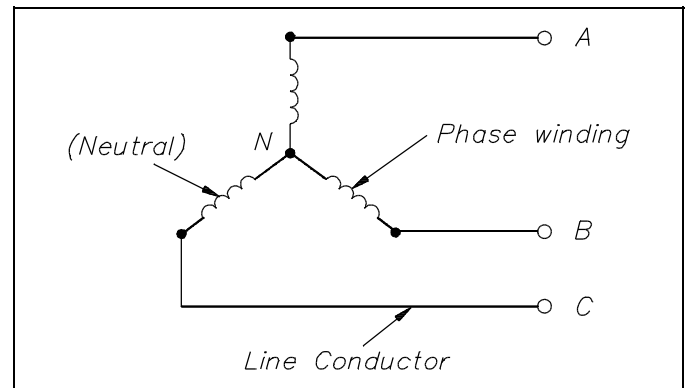

Figure 10 Wye Connection
In the other type of connection, one of the leads of each winding is connected, and the remaining three leads are connected to an external load. This is called a wye connection (Y) (Figure 10).